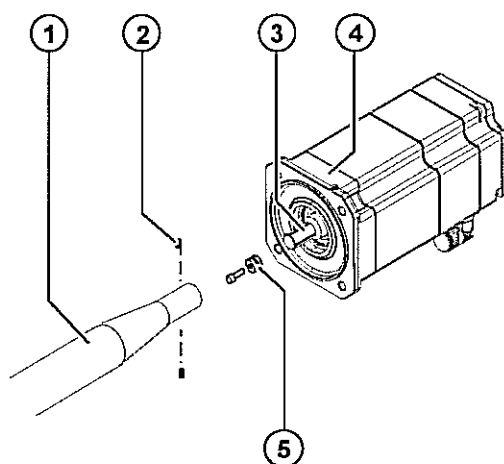

Fig. 12-14: Motor with connecting shaft
7. Slacken both setscrews (>>> Fig. 12-14) until the connecting shaft can be pulled off the toothing, and pull off the connecting shaft.